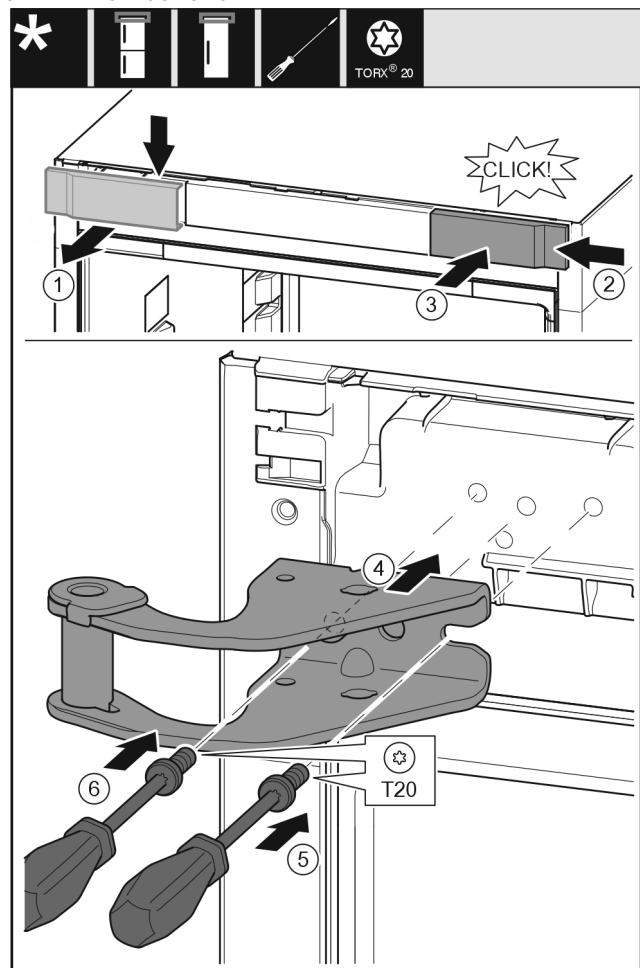

Fig. 31
- Take off the cover from above to the front. Fig. 31 (1)
- Rotate the cover 180° and clip onto the other side from the right. Fig. 31 (2)
- Latch the cover into place. Fig. 31 (3)
- Position the upper bearing bracket. Fig. 31 (4)
- Insert the screw with a T20 screwdriver and tighten it. Fig. 31 (5)
- Insert the screw with a T20 screwdriver and tighten it. Fig. 31 (6)